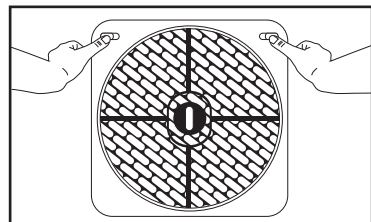

Fig. 7
1. Open the rear grill by gently pushing the release tabs toward the outside of the unit. See Fig. 7